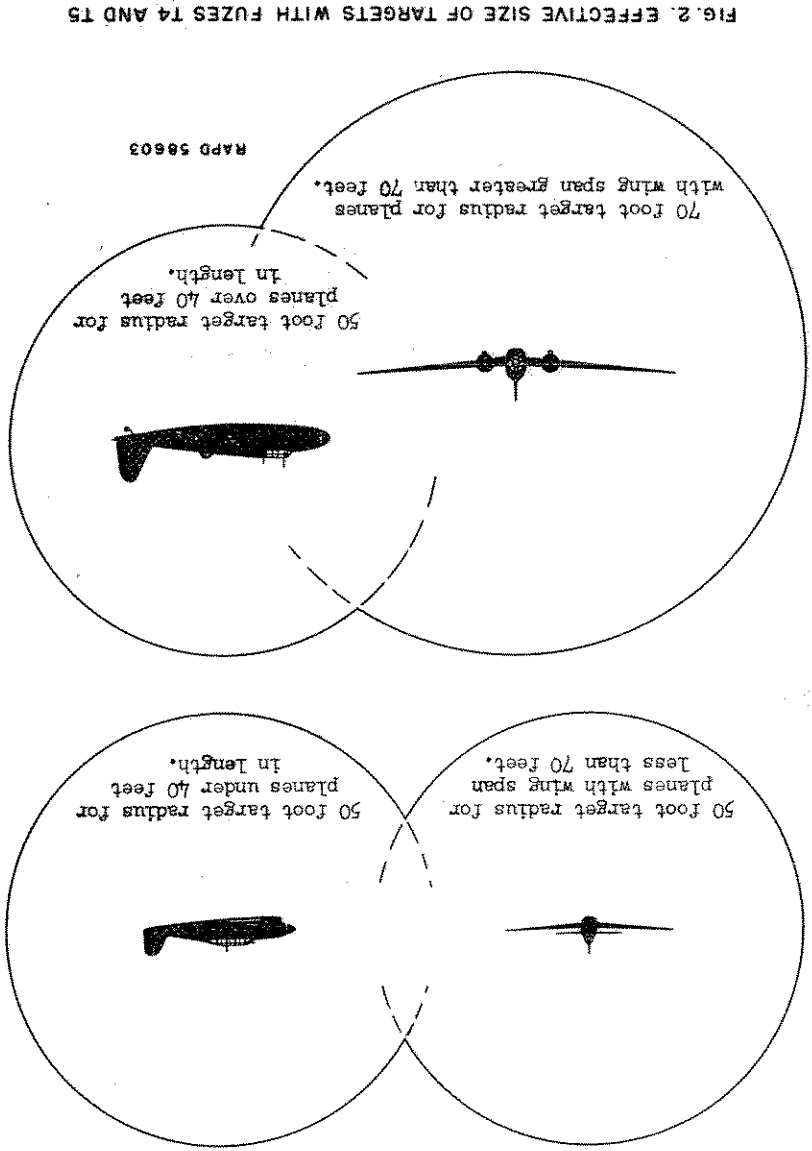
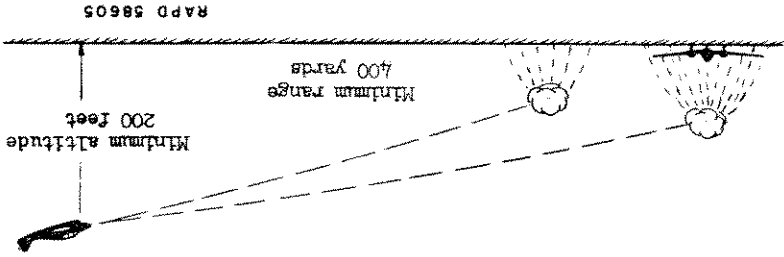

FIG. 2. EFFECTIVE SIZE OF TARGETS WITH FUZES T4 AND T5
FIG. 4. AFFECT OF MATERIAL OBJECTS ON BURST HEIGHT OF FUZE 15
a. General. - Fuzes 14 and 15 function automatically due to the influence of the target instead of by impact or time action, thereby effectively increasing the target size. When the rocket passes within 50 to 70 feet of the target (Fig. 2), fuze 14 is functioned by photoelectric action and fuze 15 is functioned by electromagnetic action at a point where greatest damage will be inflicted on the target.
(1) The fuze 15 is an electromagnetic fuze which functions due to the presence of a target. The fuze arms approximately 1 second after the rocket is launched and detonates when it comes into the influence of a target or when it approaches within 15 to 100 feet of the ground or water. A self-destroying feature will detonate the rocket approximately 6 to 12 seconds after being fired if the fuze does not pass within operating range of a target (Fig. 2) or does not approach the earth.
(2) This fuze may be used during day or night and is not affected by fog or clouds. In addition to plane-to-plane use it is suitable for plane-to-ground use.
(3) Plane-to-ground use of the fuze 15 will result in an airburst at a height most lethal to personnel and most effective against light material targets. Terrain irregularities, trees, and material targets will cause bursts to occur at greater heights than would occur over level terrain. This characteristic may be used to an advantage in that fire power may be easily concentrated on such targets (Fig. 4). The dive angle will not alter the effectiveness, but low altitude approach, or approach below 10° from horizontal will result in increased range dispersion.